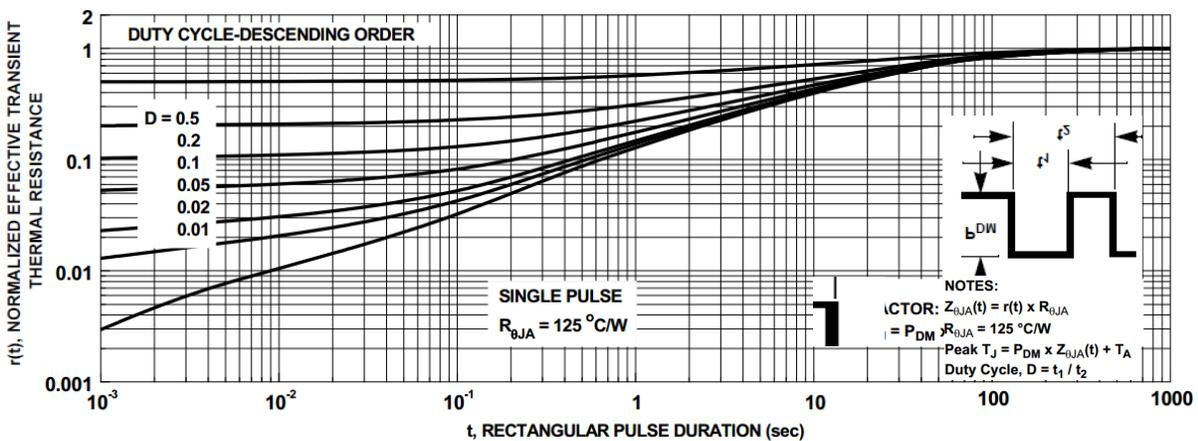

Figure 10. Junction-to-Ambient Transient Thermal Response Curve
The steady-state thermal resistance values are not enough to find a peak junction temperature in terms of pulse driven applications. Figure 10 provides the normalized effective transient thermal resistance, $r(t)$, as a function of the rectangular pulse duration at a given duty cycle. As the duty cycle and the pulse duration increase, the transient thermal impedance gets close to 1. This means the transient thermal resistance approaches steady-state resistance. It calculate the transient thermal impedance, $Z_{\theta JA}(t)$, which is used to estimate the junction temperature, T_J , resulting from a transient power dissipation by using Equations (6) and (7):
For example, when FDMS86101A is conducting during 1 ms out of the 2 ms period which is the 0.5 duty cycle, the $r(t)$ from Figure 10 is 0.5. The junction-to-ambient thermal resistance, $R_{\theta JA}$ on the minimum pad of 2 oz copper is $125^{\circ}\text{C}/\text{W}$ from Table 6. Then the $Z_{\theta JA}(t)$ of FDMS86101A mounted on the minimum pad of 2 oz copper is $62.5^{\circ}\text{C}/\text{W}$ by using Equation (6).